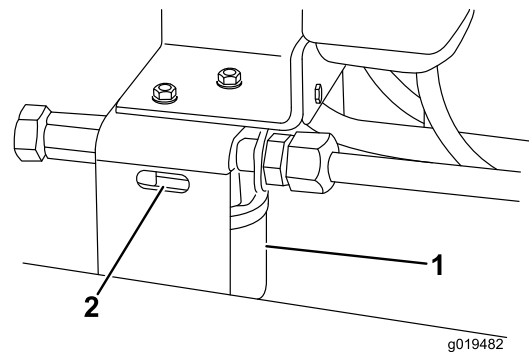

Figure 78
2. Clean area around filter mounting area. Place drain pan under filter and remove filter (Figure 78).